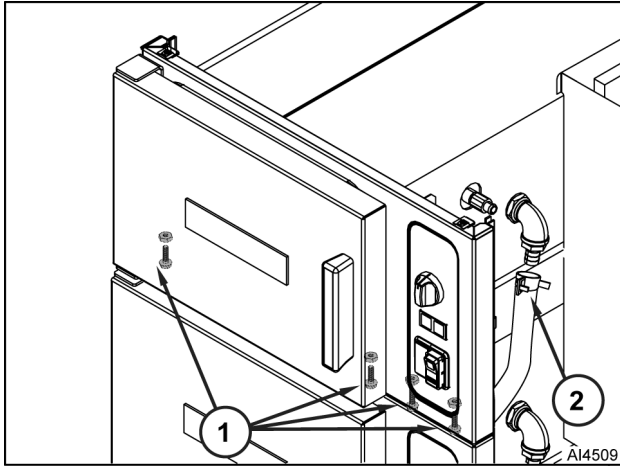

Fig. 46
- B. Remove four bolts nuts (1, Fig. 46) that secure upper and lower cooking compartment front panels.
- C. Disconnect steam supply hose (2) from steam fitting.